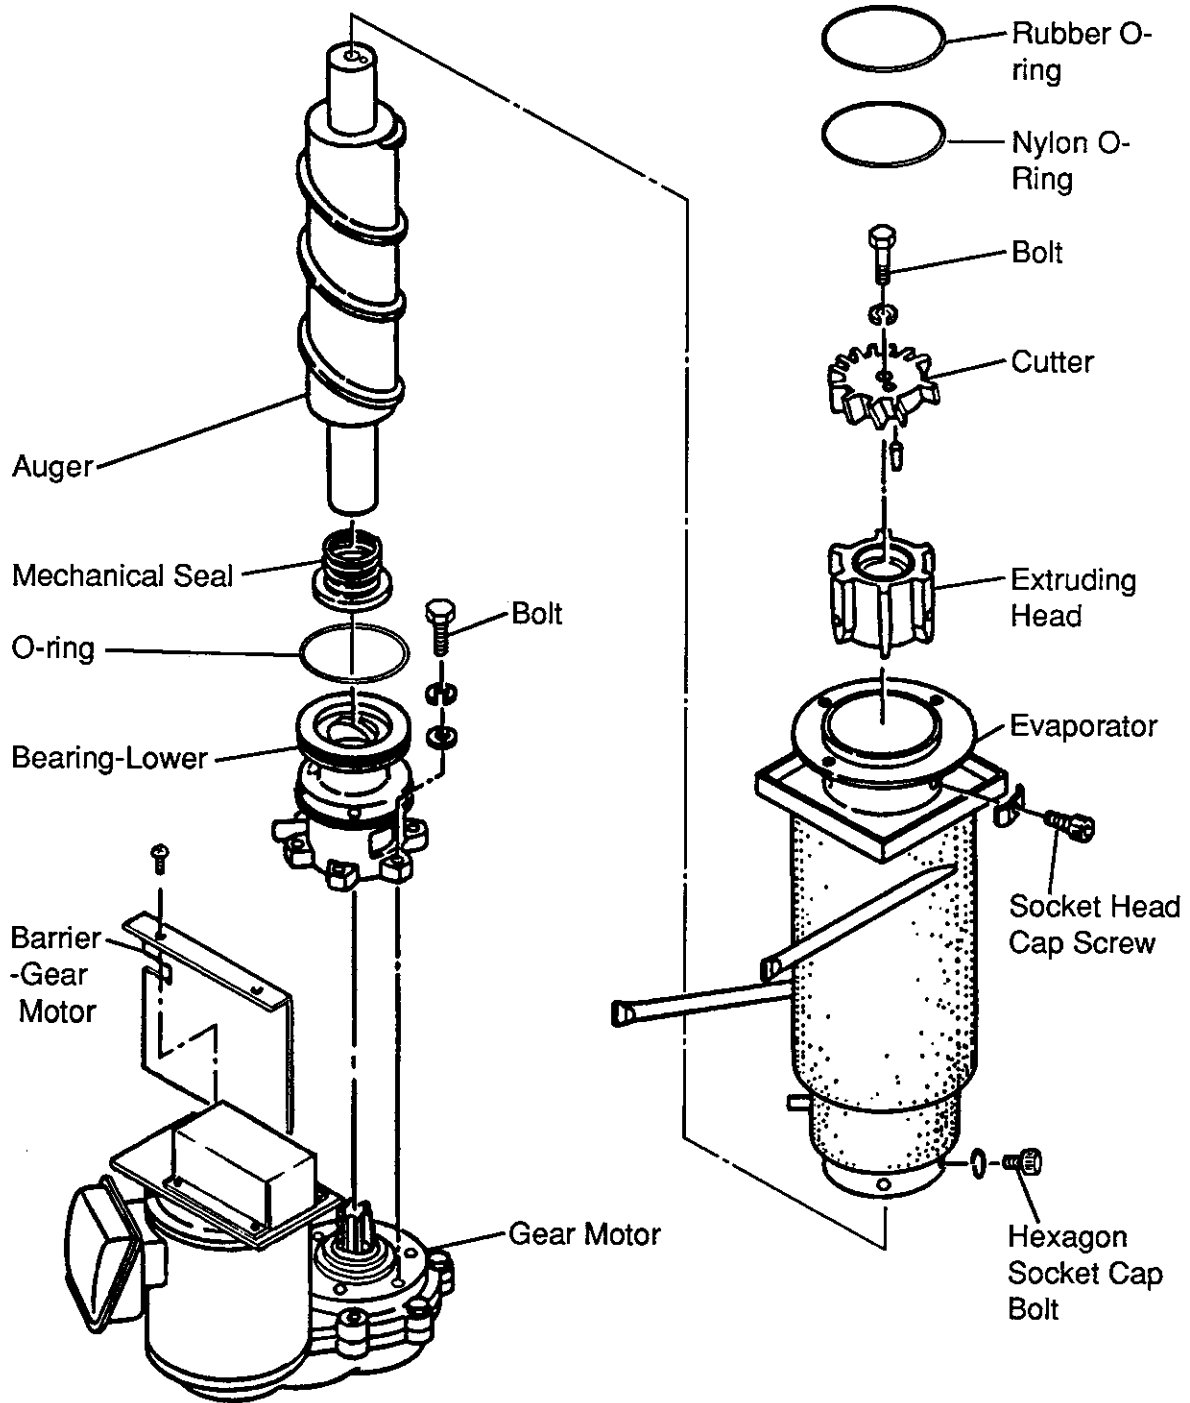

Fig. 32
8. REMOVAL AND REPLACEMENT OF COMPONENTS OF EVAPORATOR ASSEMBLY - See Fig. 32